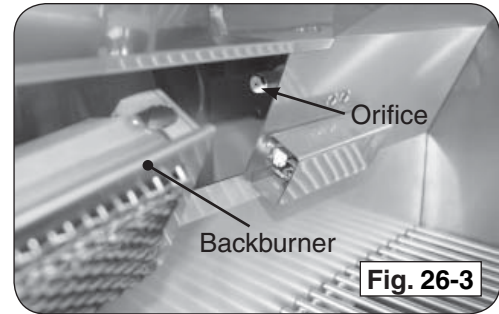

Fig. 26-3
2. Carefully pull the left end of the backburner forward until the burner can be moved to the left pulling it free from the orifice located on the right side (see Fig. 26-3).